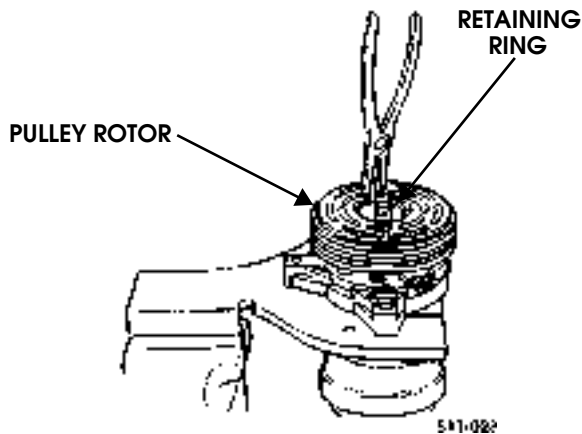

Figure 11-30: Retaining Ring
2. Using snapping pliers, remove retaining ring (Figure 11-30).